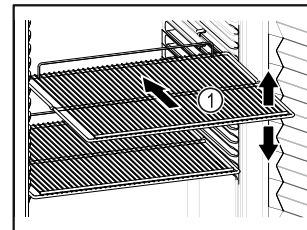

Fig. 84 Example illustration
- If there are adjustable shelves Fig. 84 (1), position them as required.